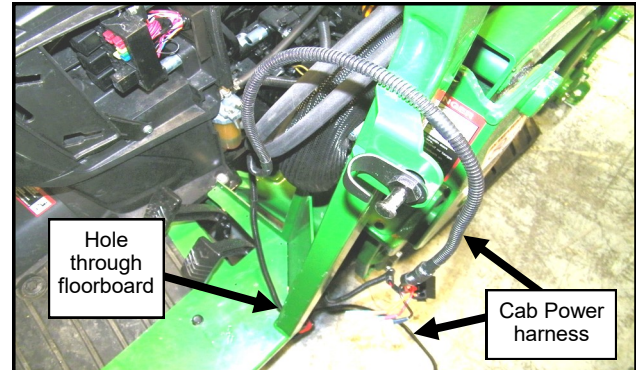
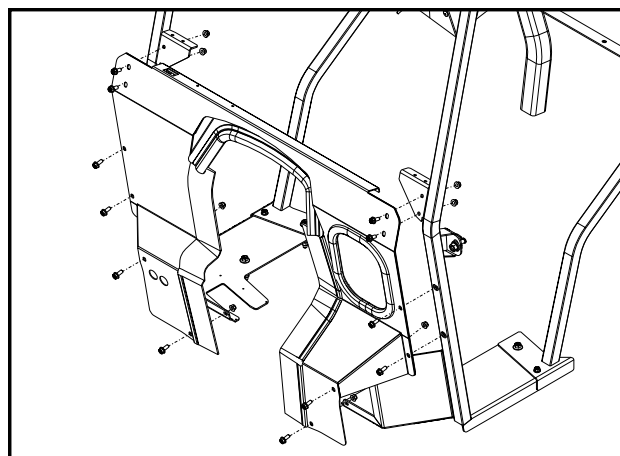
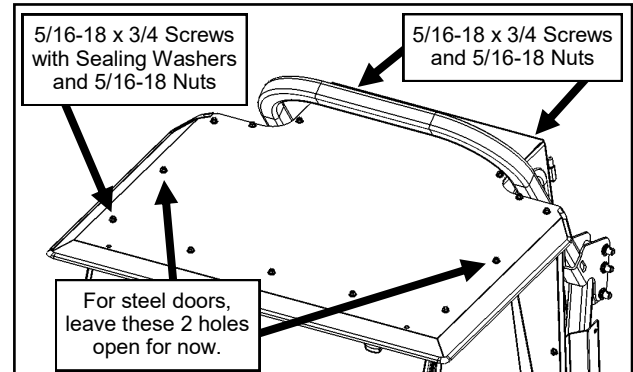

Fig. 7.2 (Feed Wire Through Floorboard)
Fig. 9.1 (Install Cowl)
Fig. 13.2 (Install Roof)
- 7.2 Locate the power harness (WH-00072). Per Figure 7.2., find the end consisting of only a bullet and ring terminal, and feed that end through the hole in the front corner of the right-side cab floorboard. Align the switch connector to the cowl bracket in the middle of the A-Pillar to ensure enough of the harness remains in the cab (ref. Figures 9.1 on page 9 and 18.3 on page 13).
9.1 With assistance, slide the cowl over the top of the hood and engine side covers using **CAUTION** not to scratch the plastic components. *TIP: Hold a finger over the edge of the sealing rubber at the bottom corners of the cowl so it does not slide off and leave the metal edge of the cowl exposed to contact the side engine covers. It is also helpful to tip the bottom as far back as possible until it reaches the pedals and brackets at the bottom of the A-pillars. Keep the power wire and heater hoses on the right side away from the A-pillar/cowl seam. For best water sealing, make sure the rubber seal folds forward (towards the front of the vehicle) for the entire length of the bulb rubber.* Secure the cowl to the A-pillars with hardware listed below. See Figure 9.1.
- 13.2** With assistance, set the roof on top of the Door Headers, Windshield Support, and Rear Legs. See Figure 13.2. Loosely secure with sealing washers on the thirteen (13) screws through the top of the roof, and no sealing washers on the two (2) screws through the back of the Rear Legs.
For 5/16" bolts (qty.: 4 on the Cowl) that thread into factory installed threaded inserts in the A-Pillars, use 20 foot-pounds. Ref.: fig. 9.1 on page 9. Typical for the 4 Roof bolts that also thread into factory installed threaded inserts. Ref.: fig. 13.2 on page 11.
For 5/16" bolts (qty.: 13 on the Roof) that use plastic washers, use only 12.5 foot-pounds. Ref.: fig. 13.2 on page 11.